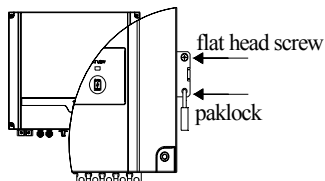

Figure 3.4-6
6. Use flat head screw in accessory bag and a padlock to fix the lock plate on the wall-mounted bracket. Refer to Figure 3.4-6.